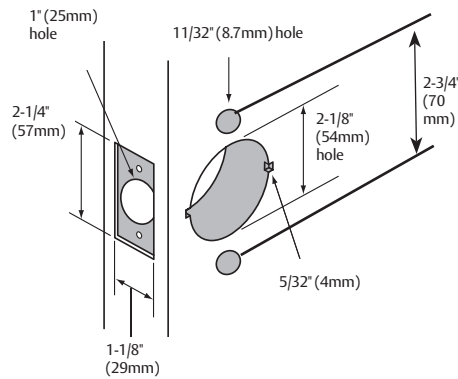

Figure 2
3. Verify the dimensions. See Figure 2.